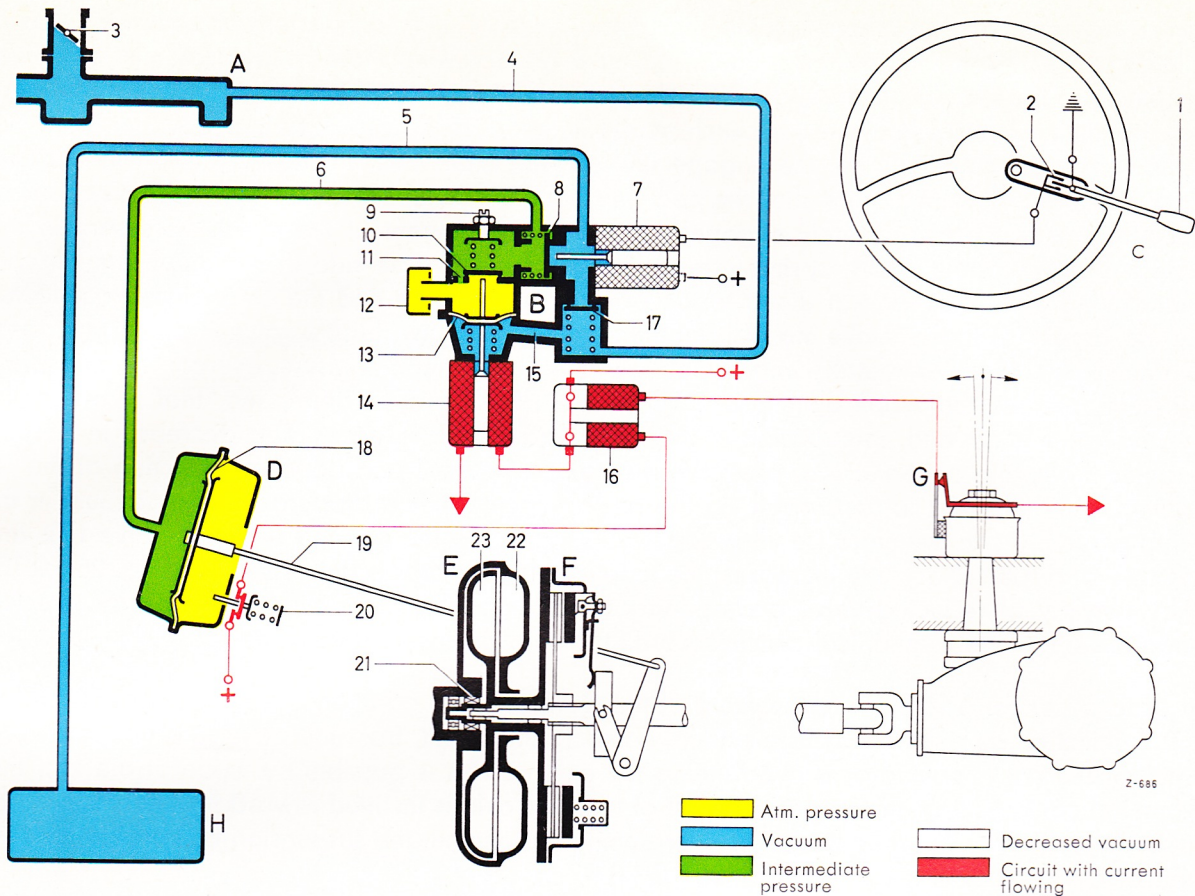

Fig. 25-0/11
of the second phase and therefore the sharpness of the braking action resulting from the downshift, can be varied by means of the adjusting screw (9). Screwing the adjusting screw in advances the timing of the second phase and softens the action of the clutch. If the adjusting screw is backed out, the timing is retarded and the clutch action is therefore fiercer. A further device is now necessary in order to accelerate the engagement of the clutch. This is necessary when the accelerator is depressed immediately after the gearshift since the clutch would slip under these conditions because it is not yet completely engaged. The fast engagement of the clutch necessary in this case is brought about by the spring-loaded diaphragm (13). One side of the diaphragm is connected via the air cleaner (12) direct to the external atmosphere and the other side is connected via the canal (15) to the intake manifold of the engine. When the throttle valve is closed and there is a considerable vacuum at the intake manifold, the atmospheric pressure, overcoming the spring pressure, presses the diaphragm down. When the accelerator is depressed, that is, when the throttle valve is opened, the vacuum in the intake manifold decreases. This decrease in vacuum enables the spring once more to press the diaphragm upward and oppose the action of the reducing valve (10) and force it open via the pin connected to the diaphragm. The vacuum in the servo assembly can therefore be very quickly dispersed via the opened reducing valve (10) and the rate of dispersal actually increases, the more the accelerator is depressed (see Fig. 25-0/10). The interplay of reducing valve and spring-loaded diaphragm thus effects a rapid or gradual engagement of the mechanical clutch according to the driving requirements.
In order to effect a further improvement of the downshift, an additional electrical switch contact (G) is fitted at the rear axle. This electrical contact can detect, from the attitude of the rear axle, whether the car is pulling or is overrunning the engine. This is possible by virtue of the fact that when the car is pulling, the suspension bolt of the rear axle is inclined toward the rear, due to the reaction torque, while when the car is overrunning the engine, the suspension bolt moves forward and makes contact at the switch (Fig. 25-0/11).